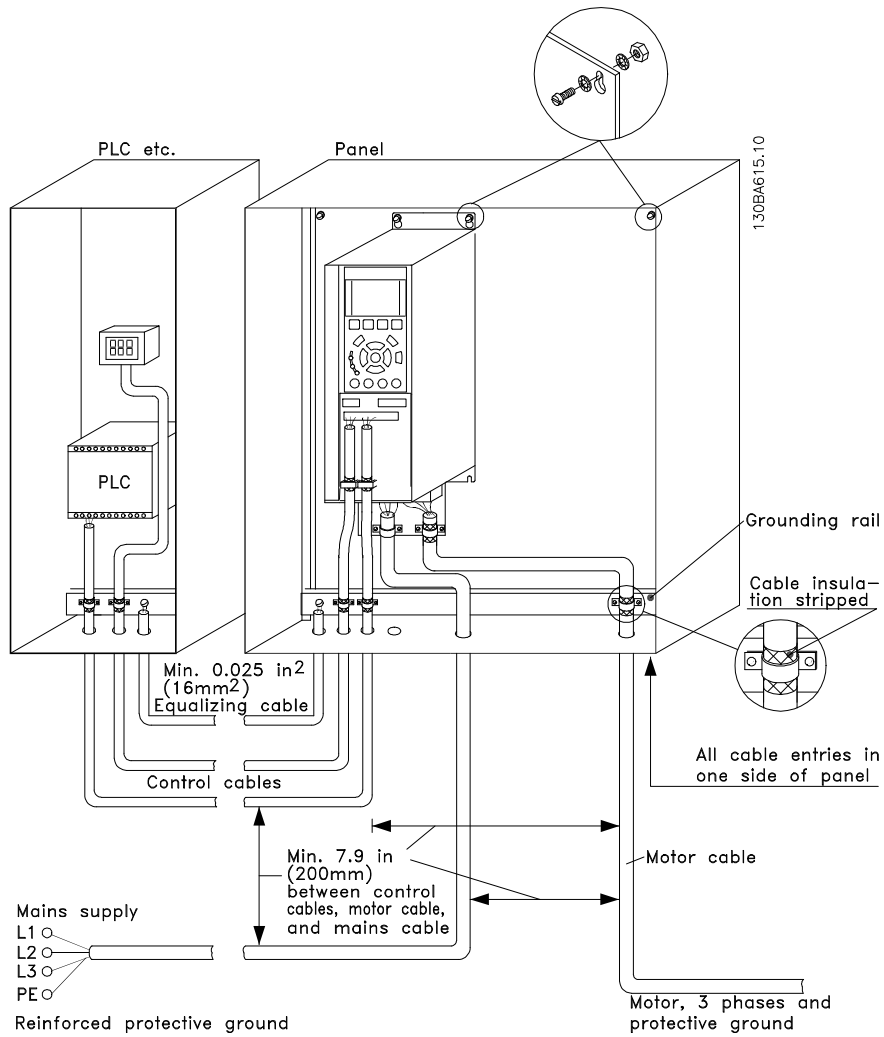

Figure 3.27 EMC Correct Installation of an IP20 Frequency Converter
*Figure 3.27* shows an example of an EMC-correct electrical installation of an IP20 frequency converter.